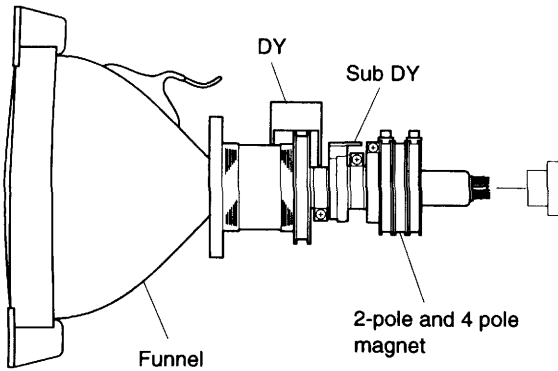
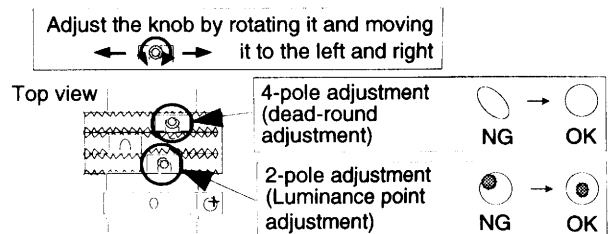

Fig. 1
Fig. 4
- (1) Set the internal oscillation mode to P5 (64 kHz), Press the PATTERN key and select the DOT pattern.
- (2) Press the CUTOFF R and B keys and set GREEN only. (If the DOT appears blur, press the + CONTR key so that it becomes clear.)
- (3) Rotate G4 VOL GREEN in the counterclockwise direction, and output flair around the dots.
- (4) While looking at the dots at the center, adjust the 2-pole Mg so that the luminance points come to the center of the flare. (See Fig. 4.)
- (5) Rotate G4 VOL GREEN in the clockwise direction.
- (6) Adjust the 4-pole Mg so that the dots become dead-round. (See Fig. 1.)